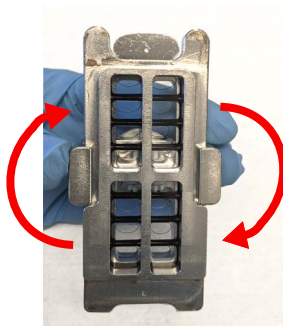

Figure 22 Rotation of the final assembled chamber
- 4 Rotate the final assembled chamber in a *vertical orientation*, clockwise, 2 to 3 times to wet the gaskets (see **Figure 22**).